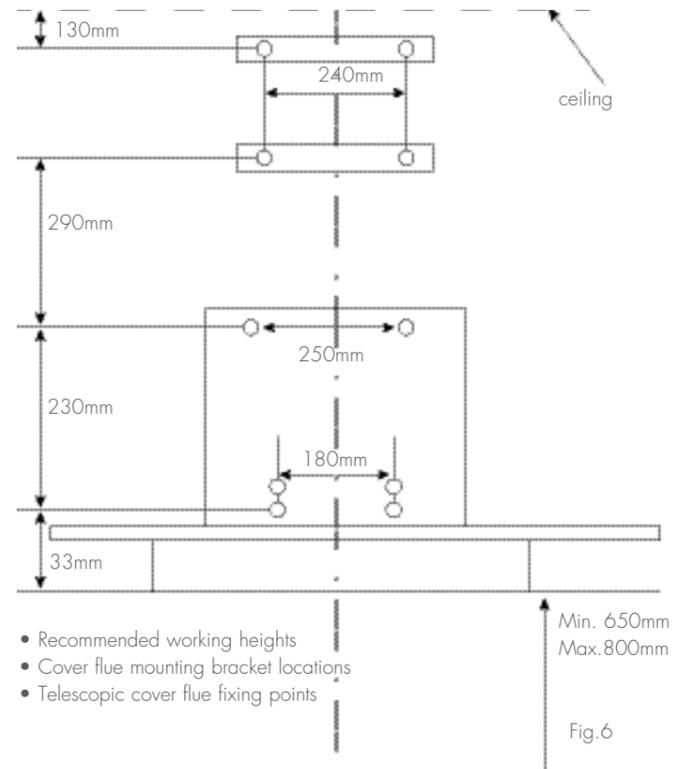

Fig. 6
1. Using a spirit level mark a vertical centre line on the wall where the hood is to be positioned, and a horizontal line at the hood base position (refer Fig. 6 below).
2. Mark the location for the wall bracket fixing points above the hood base using the hood base as the reference point (refer Fig. 6 below).
3. Install wall and ceiling mounting brackets with suitable screws (to support a total weight of 30kg) to the wall at the positions marked in Fig. 6 above.
4. Remove the protective plastic film from the hood body and hang hood on the mounting brackets then secure at the anti-tilt locations as indicated in Fig 6. Depending on the preferred installation/ducting mode, follow step 5 or 6.
7. Install cover flue mounting brackets using the guidelines provided on page 6 (Fig. 6).